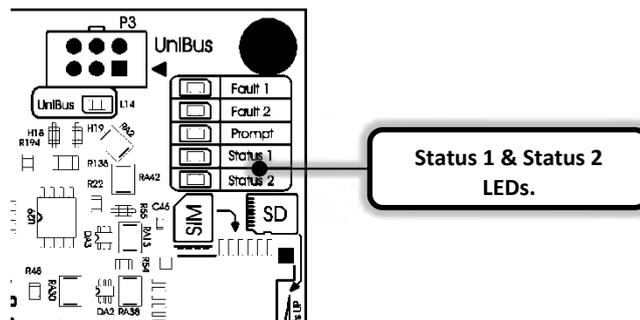

Figure 41
2. Wait for the controller to start. When the controller is up and running, the Status 1 and Status 2 LEDs will flash in an alternating pattern (*Figure 41*).
2. Wait for the controller to start. When the controller is up and running, the Status 1 and Status 2 LEDs will flash in an alternating pattern (*Figure 41 above*).